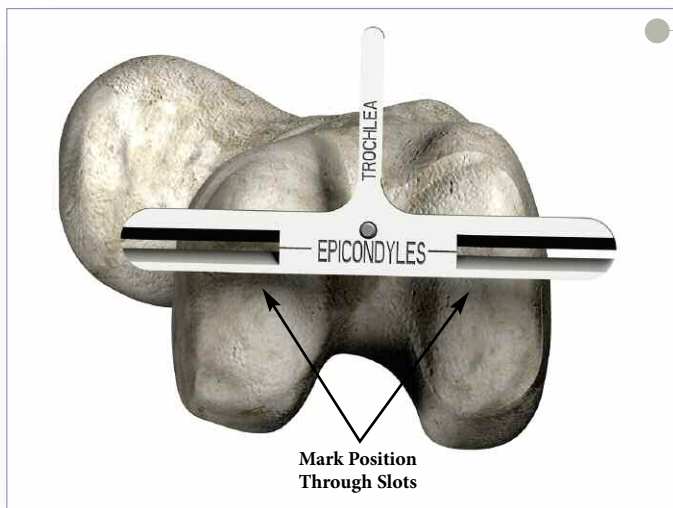

Figure 7
- ▶ Once rotation is set appropriately, mark the epicondylar axis through the slots using electrocautery or an osteotome (Figure 7).